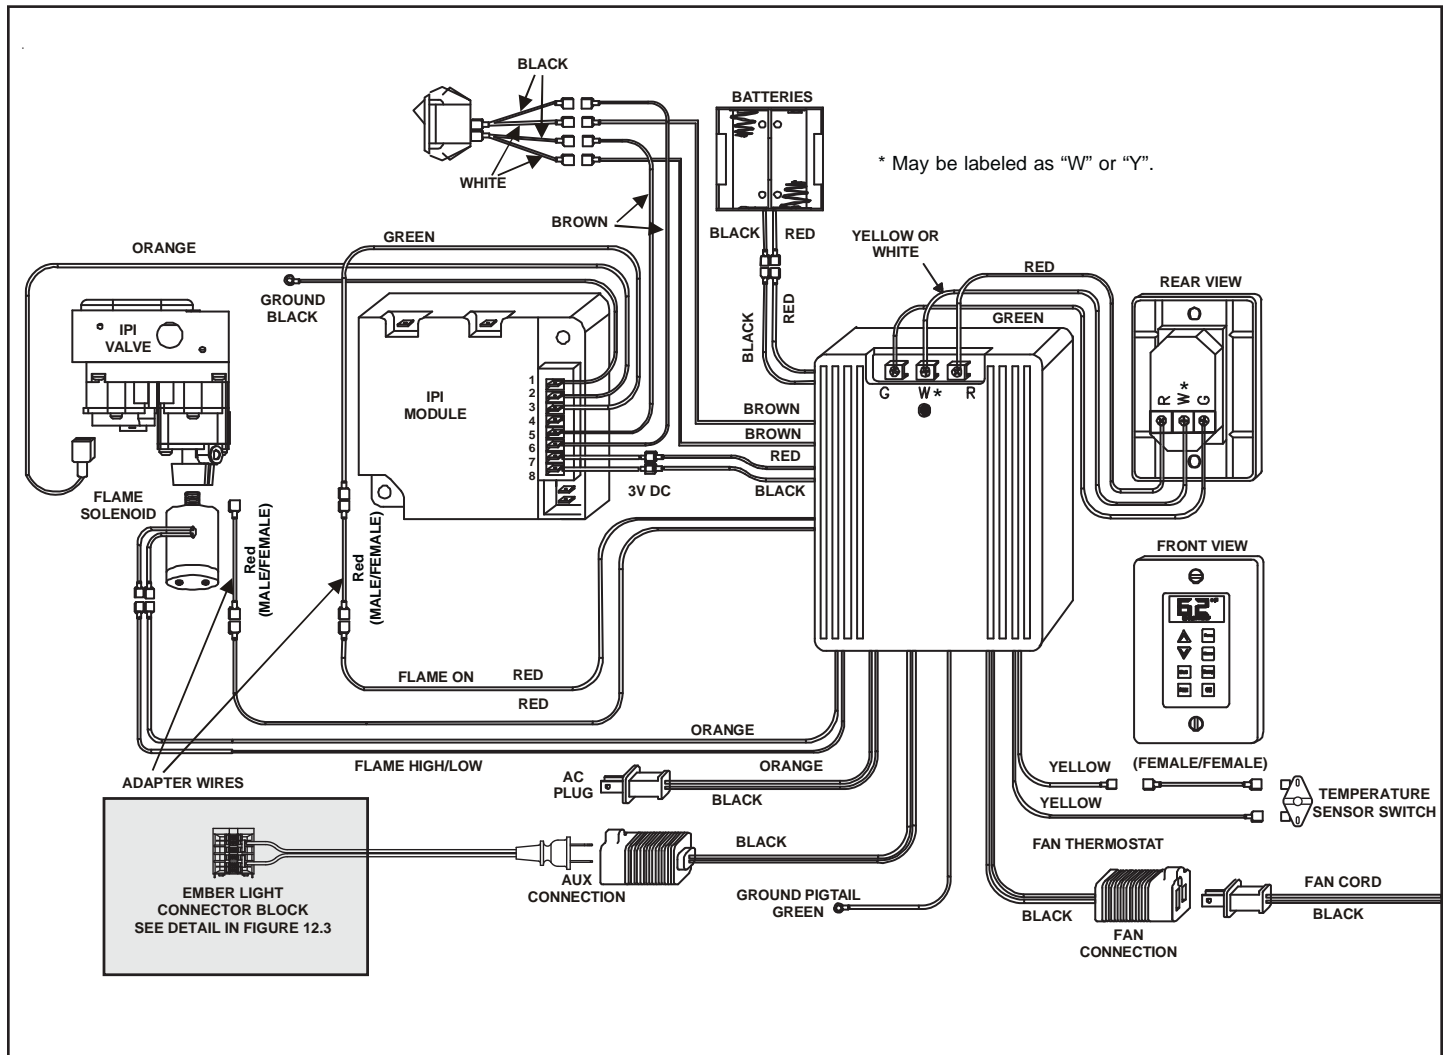

Figure 12.2 Intellifire (IPI) Wiring Diagram
- Refer to Figure 12.2, IntelliFire Pilot Ignition (IPI) Wiring Diagram.
- Connect the wires to the terminals as shown in Figure 12.2. Do not over-tighten.
- See Figure 12.2 for wiring diagram.